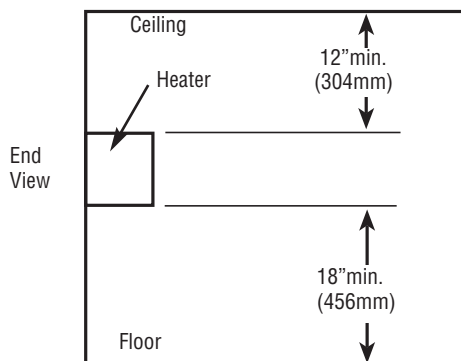

Figure 1: Clearances for typical installation
2. Position the heater on wall at desired mounting location maintaining the minimum clearances, see Figure 1.